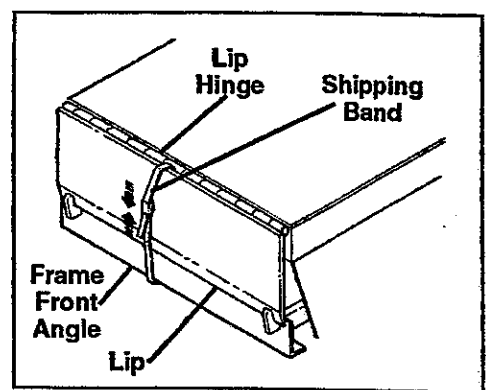

Fig. 8. Shipping Band Location
12. Place a shipping band through the lip hinge and around the front frame angle of the leveler. Secure the banding. The banding is to secure the frame angle to the platform when the leveler is removed from the pit. See Figure 8.